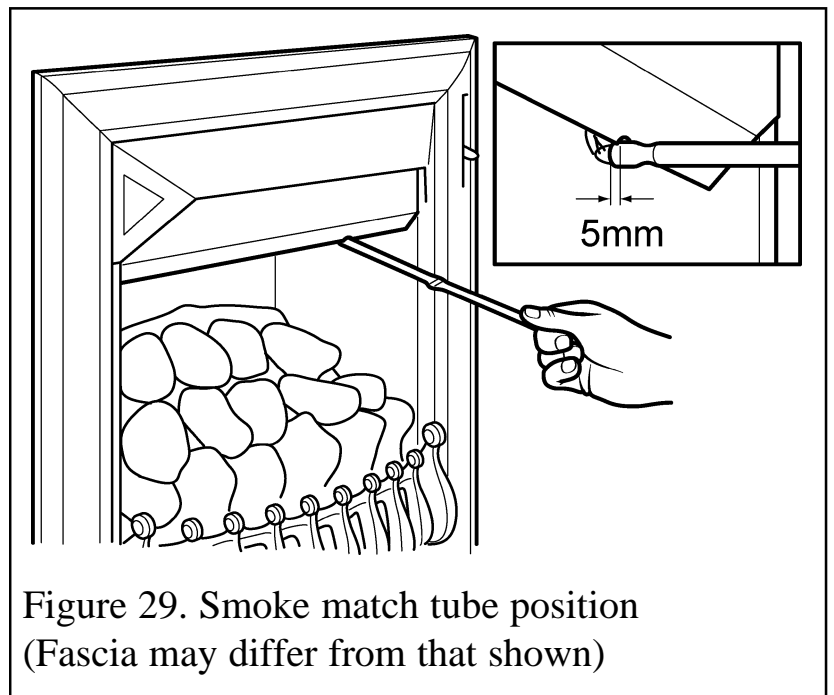

Figure 29. Smoke match tube position
4. The smoke match should be placed horizontally into the convection box at the right hand side. There is a notch in the black cross member. Insert the tube so that the neck of its flared end is 5mm passed and in contact the cross member (See figure 29).